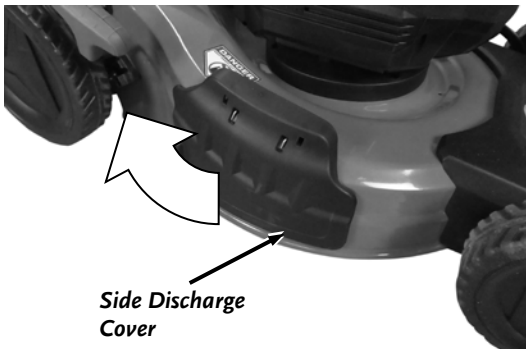

Figure 10
1. Lift the Side Discharge Cover to access the Hinge area (**Figure 10**).